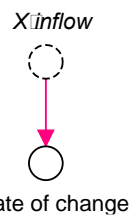

Figure 6: Computation of rate of change
- Determine the rate of change of X in the converter X rate of change from the ghost of X inflow, Figure 6.